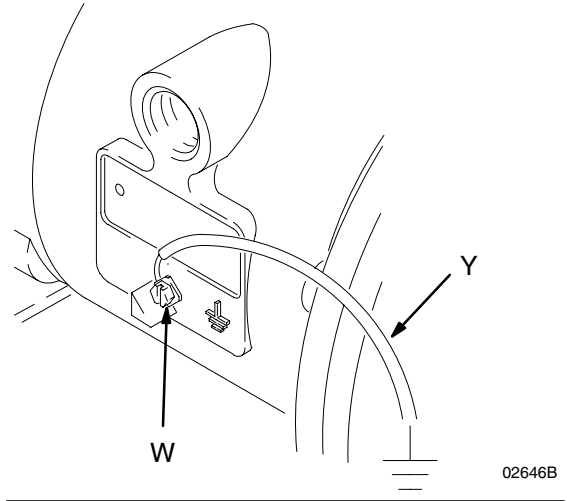

Fig. 1
When pumping conductive flammable fluids, **always** ground the entire fluid system by making sure the fluid has an electrical path to a true earth ground. See Fig. 1.
- *Air Motor:* Connect a ground wire and clamp as shown in Fig. 1. Loosen the grounding screw (W). Insert one end of a 1.5 mm² minimum ground wire (Y) behind the grounding screw and tighten the screw securely. Connect the clamp end of the ground wire to a true earth ground. Order Part No. 819.4486 Ground Wire and Clamp.